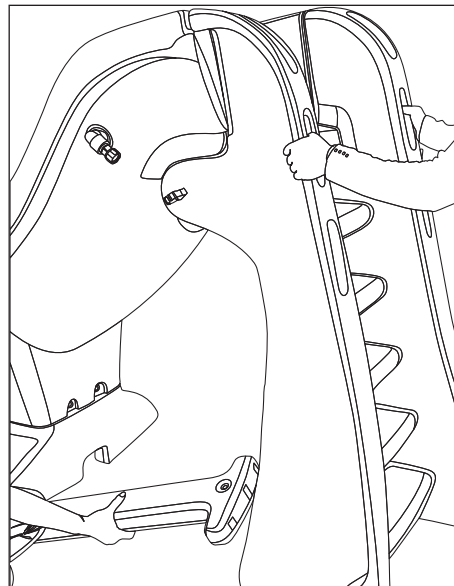
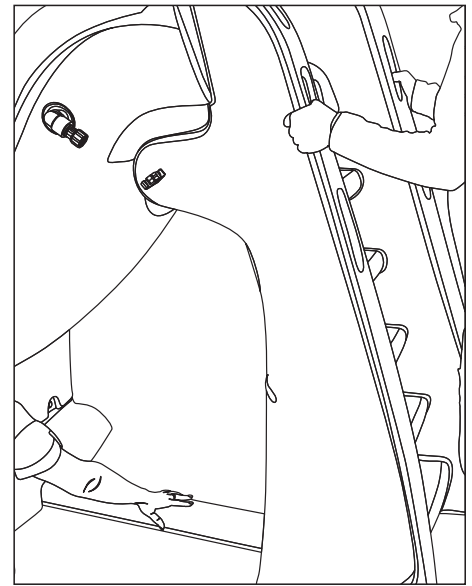

Figure 6
Figure 7
6. To insert brace, slightly lean SlideAway to one side using the ladder handles as shown in **Figure 6**. Slide the brace under the slide and lock firmly into place (**Figure 7**).
3. Insure proper installation of the support brace as instructed in **Slide Assembly Instructions** on page 10 (see **Figures 6 and 7**). The support brace must be installed prior to filling the ladder with water.